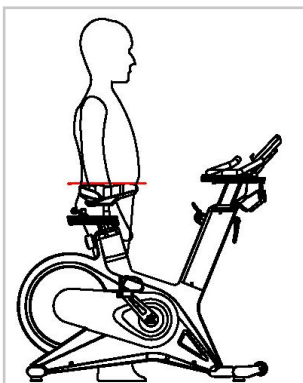
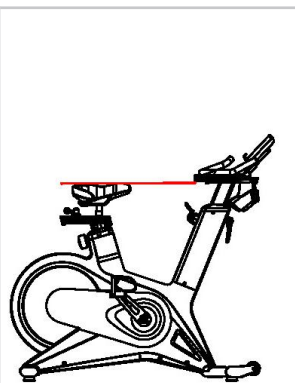

FIGURE 4
FIGURE 5
1. Standing upright next to the bicycle, adjusting the bicycle cushion to the buttocks position. As shown in Figure 4.
2. Adjust the height of the handle so that the lowest part of the handle is the same height as the seat cushion. As shown in Figure 5.
- If choose MANUAL, press the MODE button to enter MANUAL function. If press START button, then it starts counting sport directly, all the calculated values will be counted up (as Figure 4). Or you can press UP and DOWN to adjust LOAD level; If press MODE to set TIME (Figure5), setting sequence is TIME -> DIST -> CAL -> PULSE (as Figure 5~8) which can be set cyclically. After setting, press START button to start motion state.